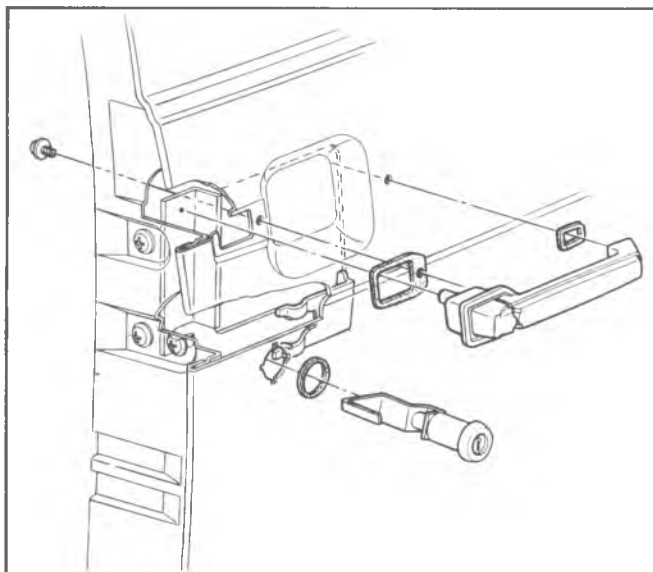

Fig. 33G—Outside Handle and Lock Cylinder
2. Remove door handle retaining screws, handle and gaskets. See figure 33G.